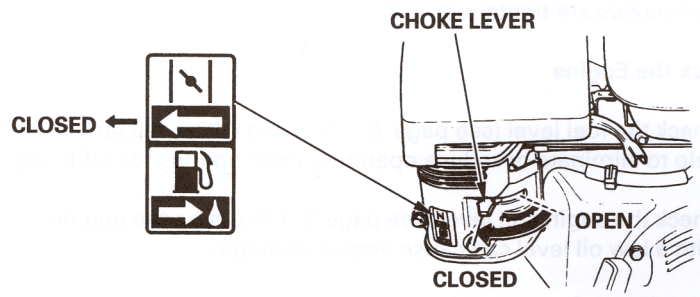

Fig. 10: Choke Lever
- b. To start a cold engine, move the choke lever to the CLOSED position (Fig. 10). To restart a warm engine, leave the choke lever in the OPEN position.